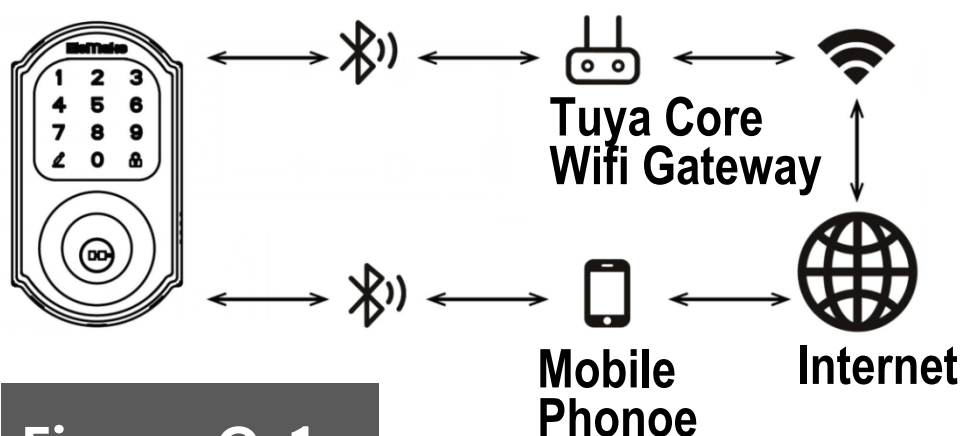
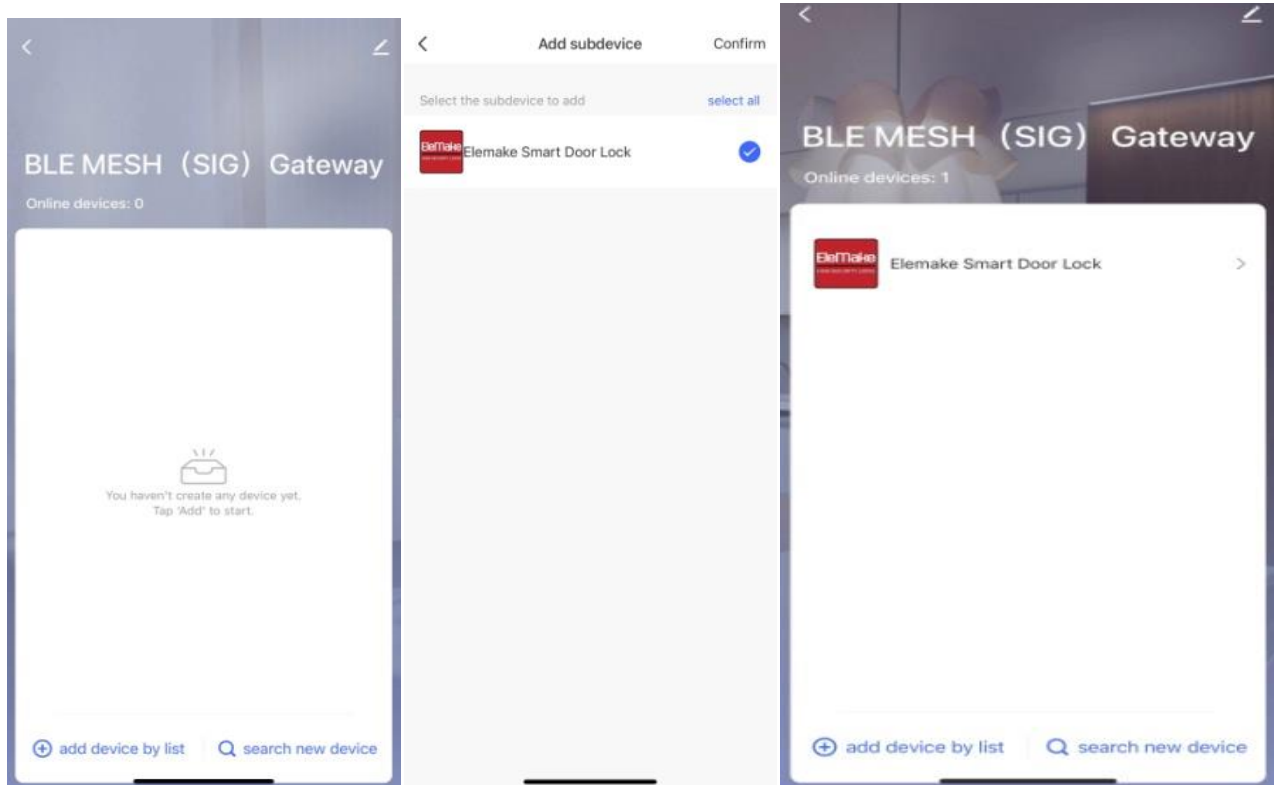

Figure O-1
Figure O-2
4.3 Connect WIFI (Optional) (See Figure O-1, Figure O-2)
(a) Elemake Internet Wireless Communication Diagram(See **Figure O-1**)
(b) Setup the Tuya Wifi gateway. (optional)(any wifi gateway with Tuya gateway IC) --If user want to use the internet functions. (See **Figure O-2**)